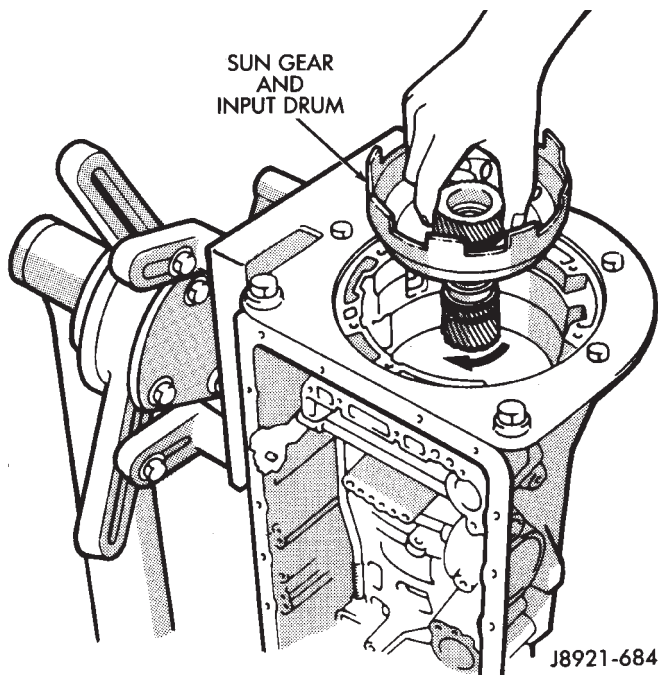

Fig. 17 Installing Sun Gear And Input Drum
- (22) Install planetary sun gear and input drum (Fig. 17). Be sure drum thrust washer tabs are seated in drum. Use petroleum jelly to hold thrust washer in position if necessary.